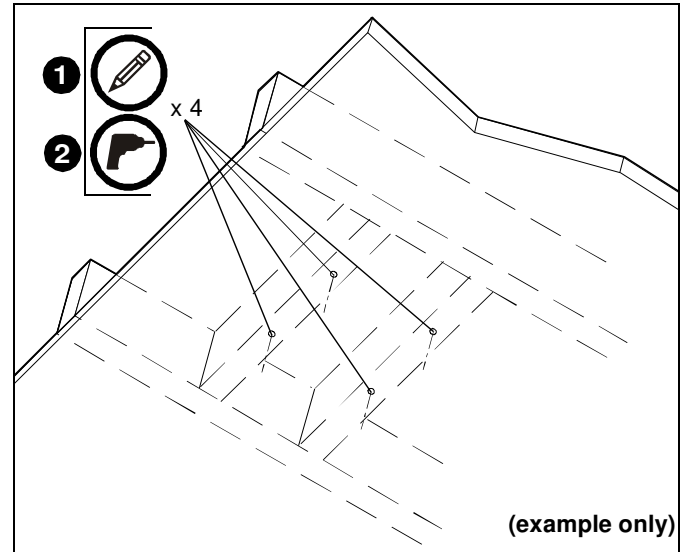

Figure 4
1. Using the RPE as a guide, mark four mounting hole locations. (See Figure 4)
2. Drill four 1/8" x 1-1/2" deep (minimum depth) pilot holes. (See Figure 4)